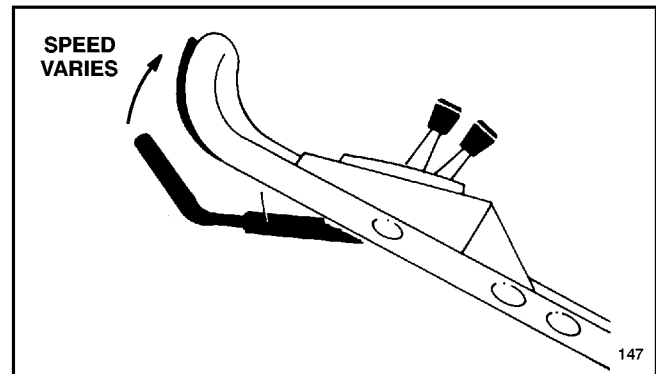

Figure 13
7. TRACTION OPERATION—Move ground speed control to desired setting and squeeze control bar against handle to drive. **Ground speed can be varied by increasing or decreasing distance between control bar and handle (Fig. 13).** Lower control bar to slow mower when making a turn, maneuvering, or if mower is moving too fast for you. If you lower control bar too far, the mower will stop self-propelling. Squeeze control bar closer to handle to increase ground speed. When control bar is tight against handle, mower will self-propel at maximum ground speed. The control bar does not have to be squeezed tight against the handle to self-propel. Move ground speed control to **N** when using the mower for trimming and whenever leaving mower.